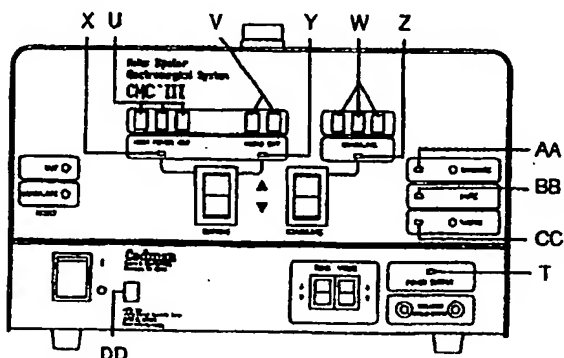

Figure 5. Front Panel Indicators (Items T through DD)
Used to control the volume of the tones which indicate cutting or coagulation power is being delivered to forceps. You can change the tone volume at any time during the operation of the CMC-III, except while cutting or coagulating. While you are using these controls, the tone volume settings will appear in the Microcut Power Display Window (Item V in Figure 5). Afterwards, the display window will again show the actual microcut power setting.
While you are using these controls, the voice volume settings will appear in the Microcut Power Display Window (Item V in Figure 5). Afterwards, the display window will again show the actual microcut power setting.
When the MALIS Irrigator is properly set up and connected to the CMC-III, push this button to disable and enable irrigation. An additional irrigator button is located on the remote control set. The Irrigation Mode Indicator (Figure 5, Item AA) located on the generator will illuminate when the irrigator is enabled, regardless of which of the two switches is used.
Press this button to display the power settings in watts. The Watts Display Indicator (Figure 5, Item CC) will illuminate whenever the power settings are shown in watts.
Used to prevent the voice synthesizer from announcing the operating mode being employed and the power settings each time cutting or coagulating is performed. When the voice is muted, the Mute Indicator, Item BB in Figure 5, will illuminate.
When the MALIS Irrigator is properly set up and connected to the CMC-III, push this button to disable and enable irrigation. An additional irrigator button is located on the generator. The Irrigation Mode Indicator (Figure 5, Item AA) located on the generator will illuminate when the irrigator is enabled, regardless of which of the two switches is used.
Indicators (Figure 5)
3. Place the remote control into a sterile transparent plastic bag, such as those used for operating room cameras. Place the remote in an accessible area of the sterile field. For best results, aim the remote as directly as possible toward the front panel of the generator. Make sure the infrared signal receiver window (Item DD in Figure 5) is not obscured.